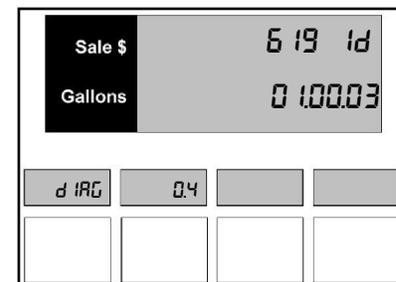

Figure D.0.4 – 619 Software ID
2. The current level of the 619 software revision will be displayed as shown in *Figure D.0.4*. **Note:** This will change from software version to software version.